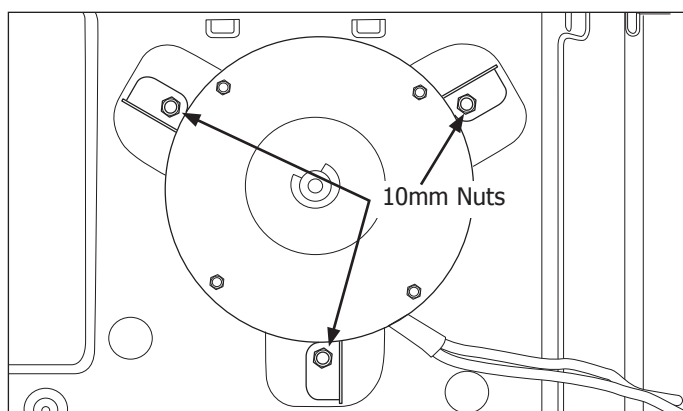

Figure 4-69.
5. Use a 10 mm socket or wrench and remove the three nuts securing the condenser fan motor to the right partition bulkhead. Lift condenser off mounting studs. (See Figure 4-69)